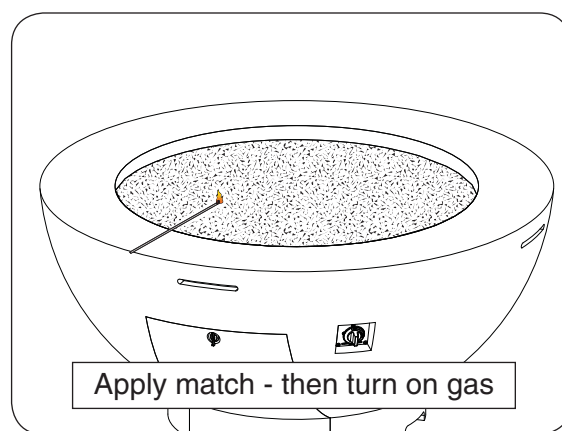

Fig. 37-1
3. Lay a lighted match on the surface of the decorative media near the burner (**do not hold the match in your hand**) (Fig. 37-1).